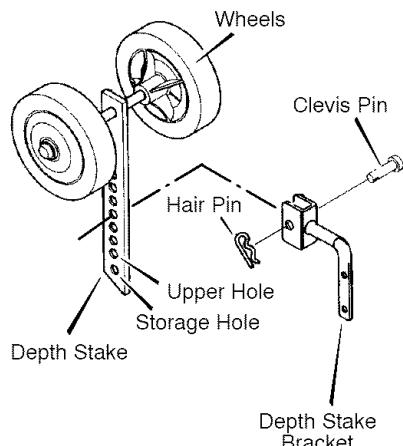

Figure 4
1. Remove the **hairpin** and the **clevis pin** from the **depth stake** (see Figure 4).
3. For cultivation in heavy soil or for seed bed preparation, position the **depth stake** with the *wheels up* (see Figure 4).